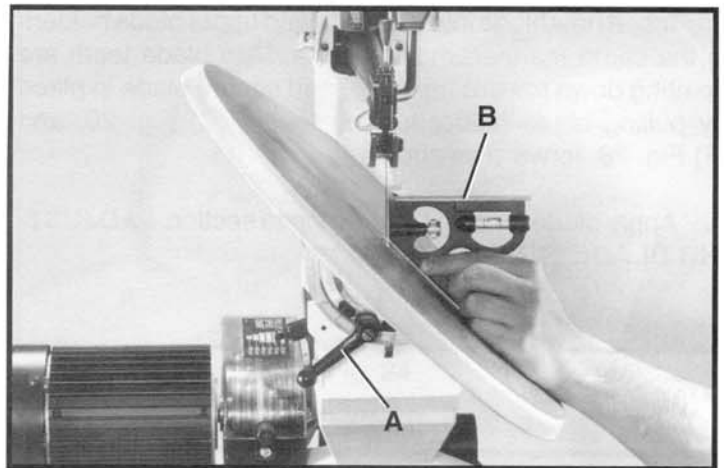

Fig. 32
5. Tilt table all the way to the right, as shown in Fig. 32, and tighten table lock handle (A).
6. Using a square (B) Fig. 32, check to see if the table is 45 degrees to the saw blade, as shown.